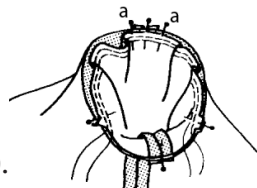

Figure 9
- Match the top of the sleeve to the shoulder line. Pin in place. Put two additional pins approximately $\frac{1}{2}$ to $\frac{3}{4}$ inch on each side of shoulder seam pin, at points (a) in figure 9.
- Match the two markings on either side of the sleeve top. Pin in place (Figure 9).